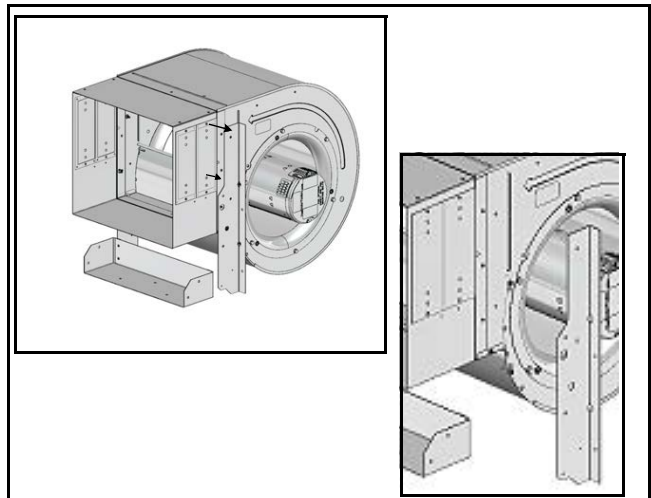

Fig. 28
5. Remove one vertical bracket by removing the two screws and retain the bracket. (See Fig. 28.)